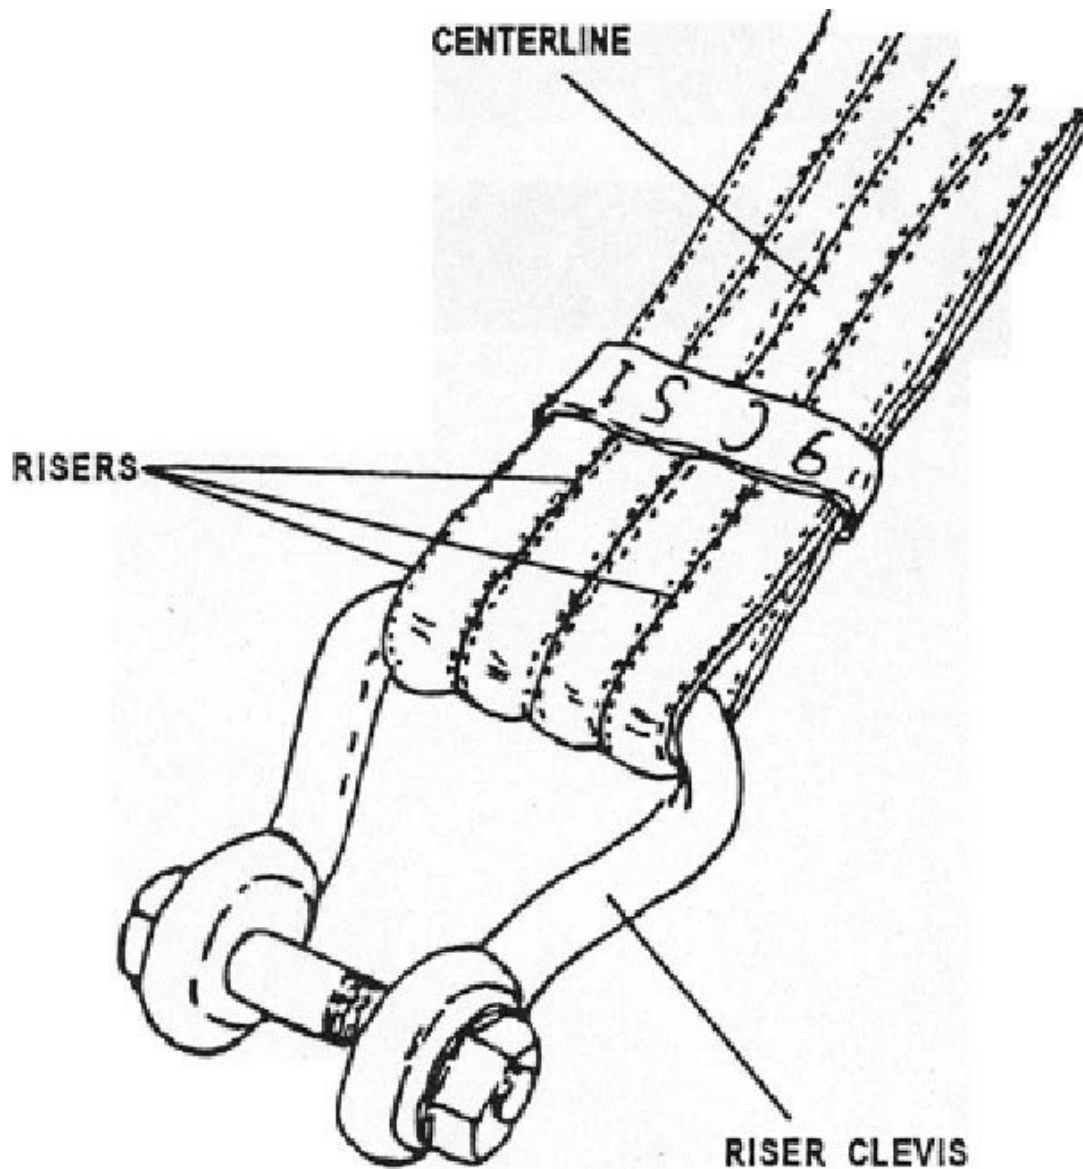

Figure 3-25
- h. Remove one suspension riser from the large suspension clevis, and place the centerline free end on the clevis. Using masking tape, secure the risers and centerline together at a point immediately above the attaching loops. (See Figure 3-25)